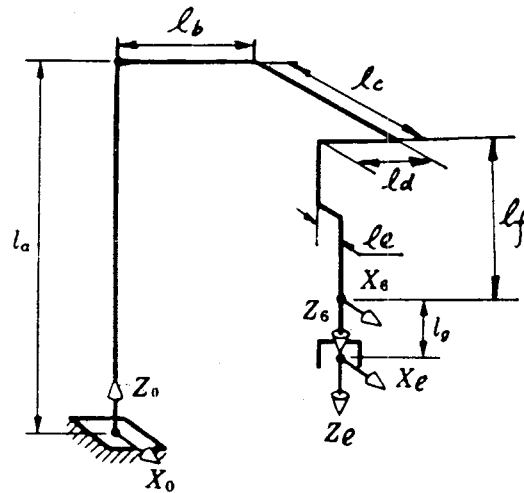

Fig. 1 A PUMA manipulator
1. Assume that the PUMA manipulator is in the configuration shown in Fig. 1. Calculate the joint torques equivalent to the following force  $f_e^o$  and moment  $n_e^o$  in the frame  $X_o Y_o Z_o$  shown in the figure.